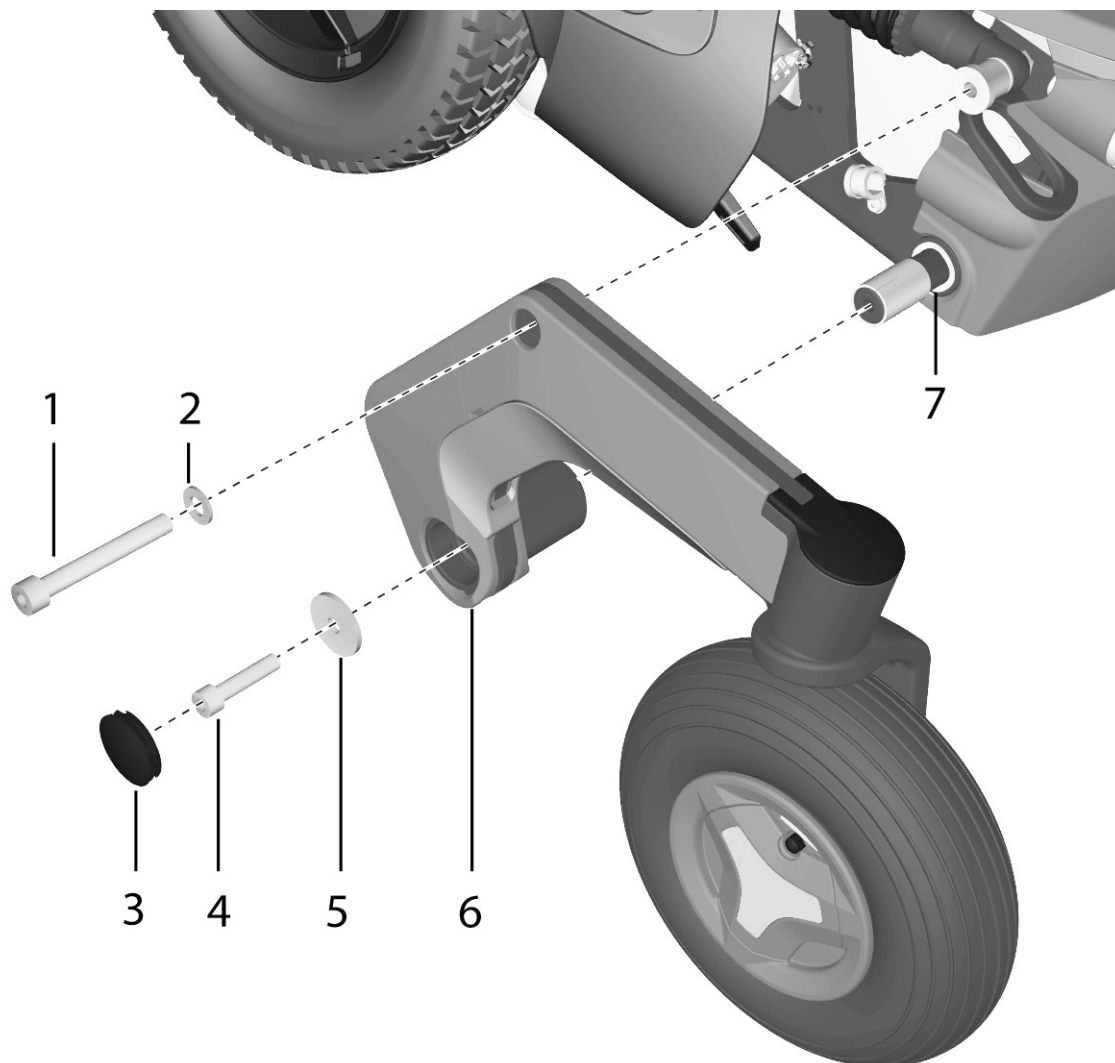

Figure 48. Fitting/removing the Rear Link Arm.
3. Remove the shock absorber from the link arm. It is fitted with one screw (1) and washer (2). See fig. 48.
4. Remove the cover (3) from the link arm by pulling it straight out (see fig.). below. If necessary, carefully lever it out using a screwdriver in the slot on the cap. See fig. 48.
5. Remove the link arm (6), it's fitted with the screw (4) and the washer (5) (see fig. below). See fig. 48.
2. Make sure the washer (7) is mounted on the axle. See fig. 48.
3. Mount the link arm (6) onto the axle with the use of hand force only. Make sure the link arm is fully seated upon the axle. See fig. 48.
4. Fit the screw (4) and the washer (5). Tighten the screw using a torque wrench. **Tightening torque: 24 Nm / 17.7 Ft/lbs** See fig. 48.
5. Fit the shock absorber to the link arm. It is fitted with one screw (1) and washer (2) Tighten the screw using a torque wrench. **Tightening torque: 24 Nm / 17.7 Ft/lbs**. See fig. 48.
6. Fit the cover (3) on to the link arm by pushing it straight in. See fig. 48.